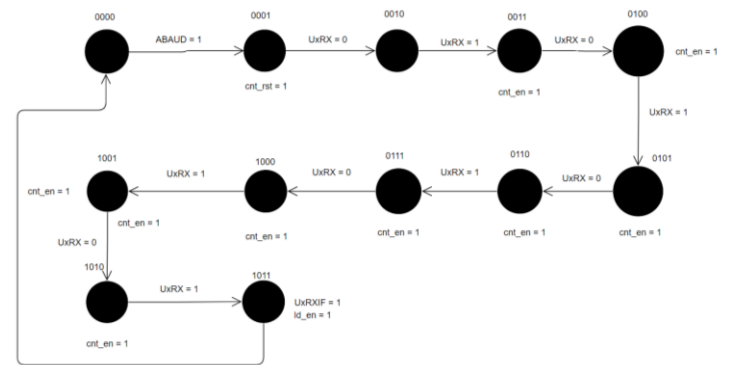

Fig. 15 State Diagram
1) Controller state diagram has shown in Fig. 15